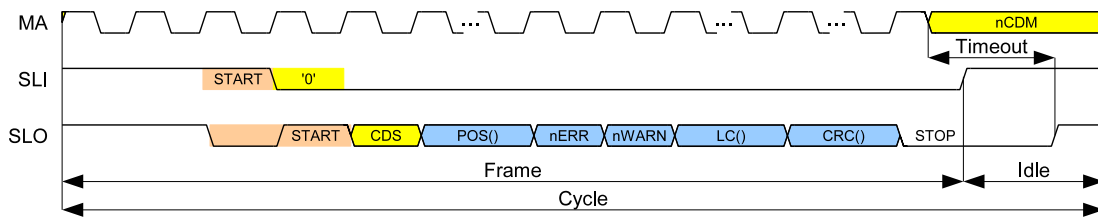

Figure 29: BiSS transmission sequence
The implemented BiSS slave interface can be selected via port configuration pins as described in INTERFACE PORTS on page 20. As BiSS and SSI share its physical ports, the interface of choice has to be enabled additionally via **SSI_EN**. A BiSS transmission is illustrated in Figure 29. Data is sampled on the first rising edge of MA and transferred with MSB first.
The Single Cycle Data (SCD) is transmitted in the format highlighted blue in Figure 29. According to Table 39, the format includes the multiturn position followed by the singleturn position, one low-active error bit, one low-active warning bit, an optional 6-bit sign-of-life counter (LC) and a 6-bit or 16-bit CRC value. The position data is affected by the offsets **MT_OFF** and **ST_OFF**.